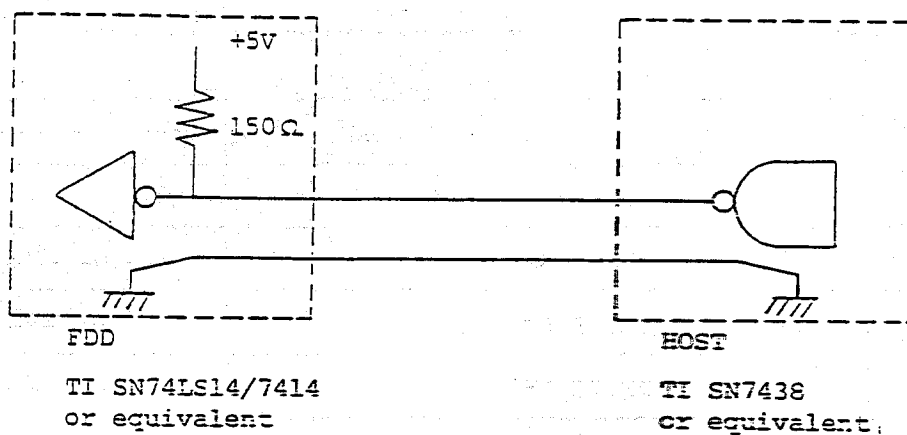

Fig. 3-1 Input
| (1) Input circuit  | See Fig. 3-1 |